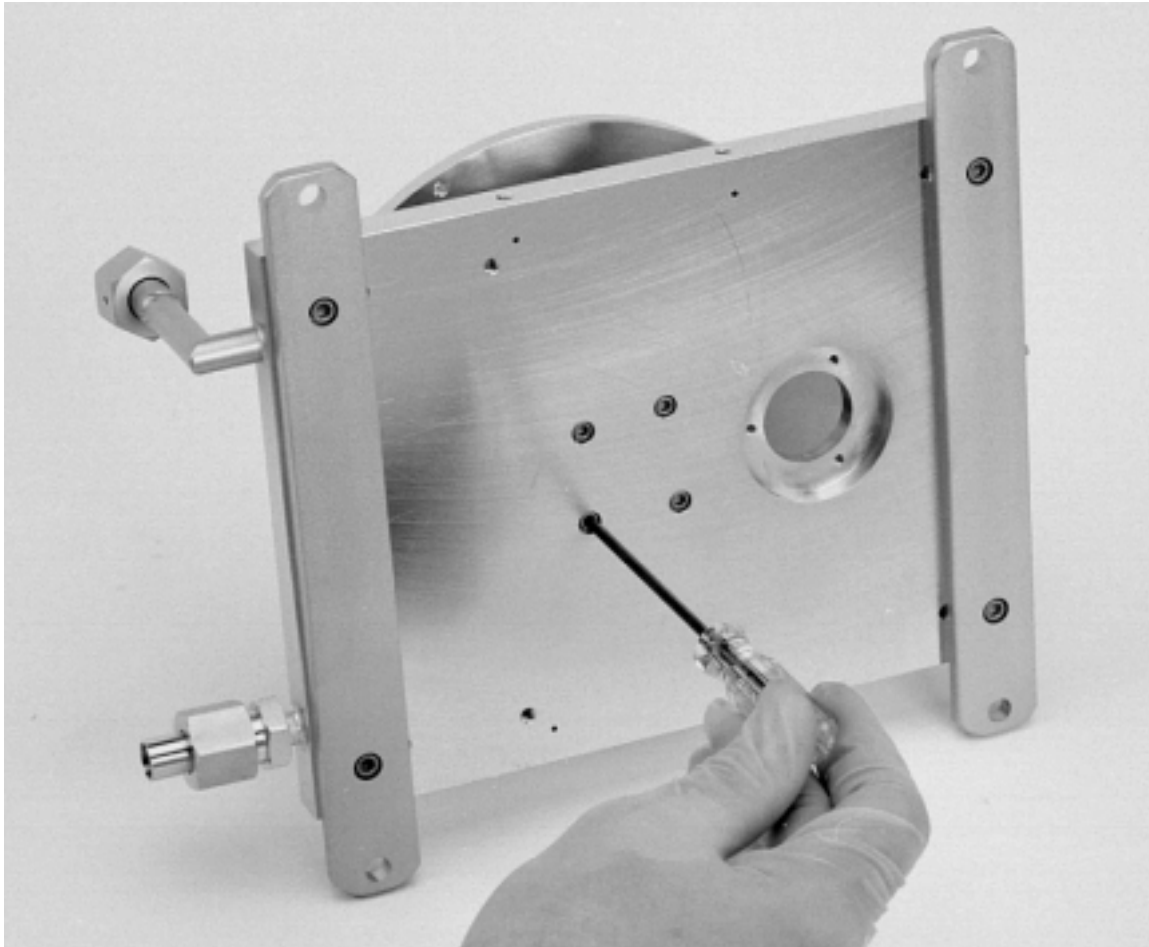

Figure 6-22. Detaching the pivot plate shaft from the base plate
Step 22: Holding the remainder of the source as shown in Figure 6-22, remove the four 6-32 1/2" screws that secure the pivot shaft to the base plate. Then you can remove the bearing housing assembly (which contains the pivot shaft) from the source.